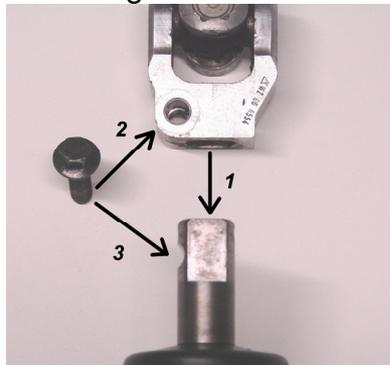
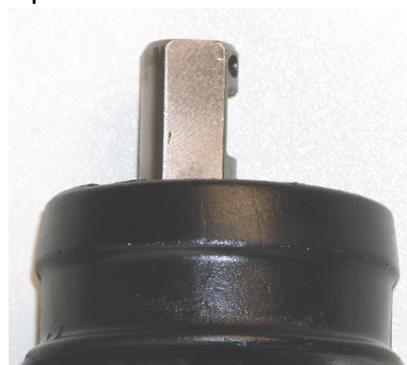

Figure 1
Figure 2
Each steering rack is connected to the steering column through a coupling. On Figure 1 you see that the steering coupling is placed on the pinion (1), the bolt goes through the hole provided therefore (2) and the bolt sits in the cut-away. On Figure 1 you see that everything matches perfectly. But in Figure 2, the cut-away for the bolt is significantly larger. If this type of steering racks is installed, it is important that the coupling is pushed far enough on the pinion. In many cases there is a rubber part which is manufactured into the coupling. If the coupling isn't installed far enough, then the pinion comes under pressure and the rack will wear obliquely, starting to turn heavily and eventually get stuck.